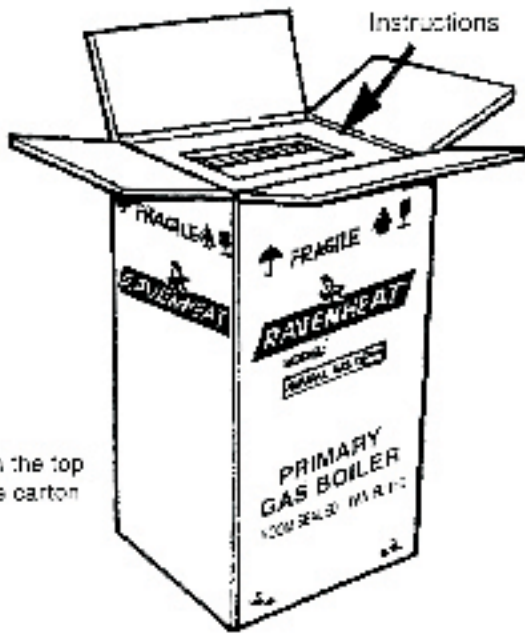

Fig 15
5.2.1 The appliance carton containing (Fig.15)